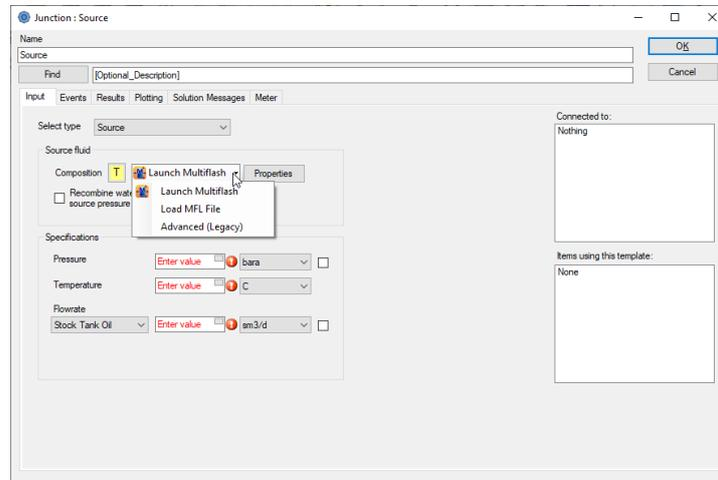

Figure 15: Fluid properties definition choice
- The three options, Figure 15, allowed to define a fluid composition are either: